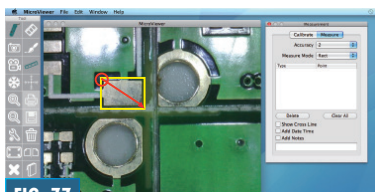

FIG. 77
4. Drag to the opposite corner (diagonally) of the object (Fig. 77).